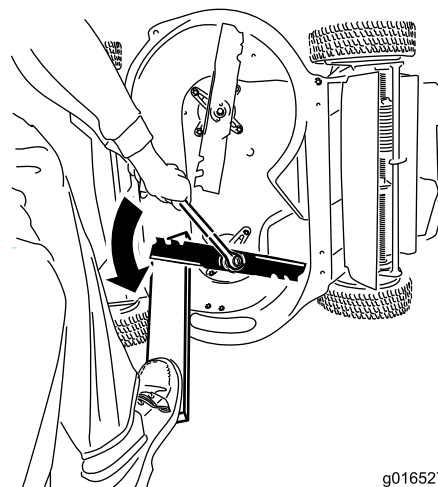

Figure 38
1. Use a block of wood to hold each blade steady and turn the blade bolt counterclockwise as shown in Figure 38.